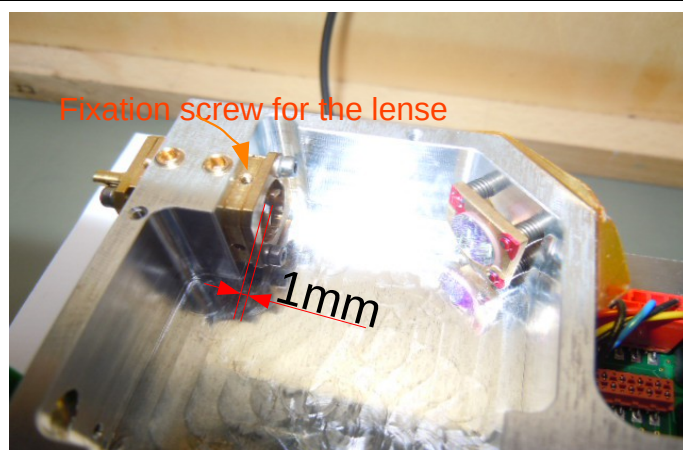

Figure 48:
- then put the focus lens in, adjust the Z-position to approximately 1mm (Figure 48: ) and fix it with the fixation screw